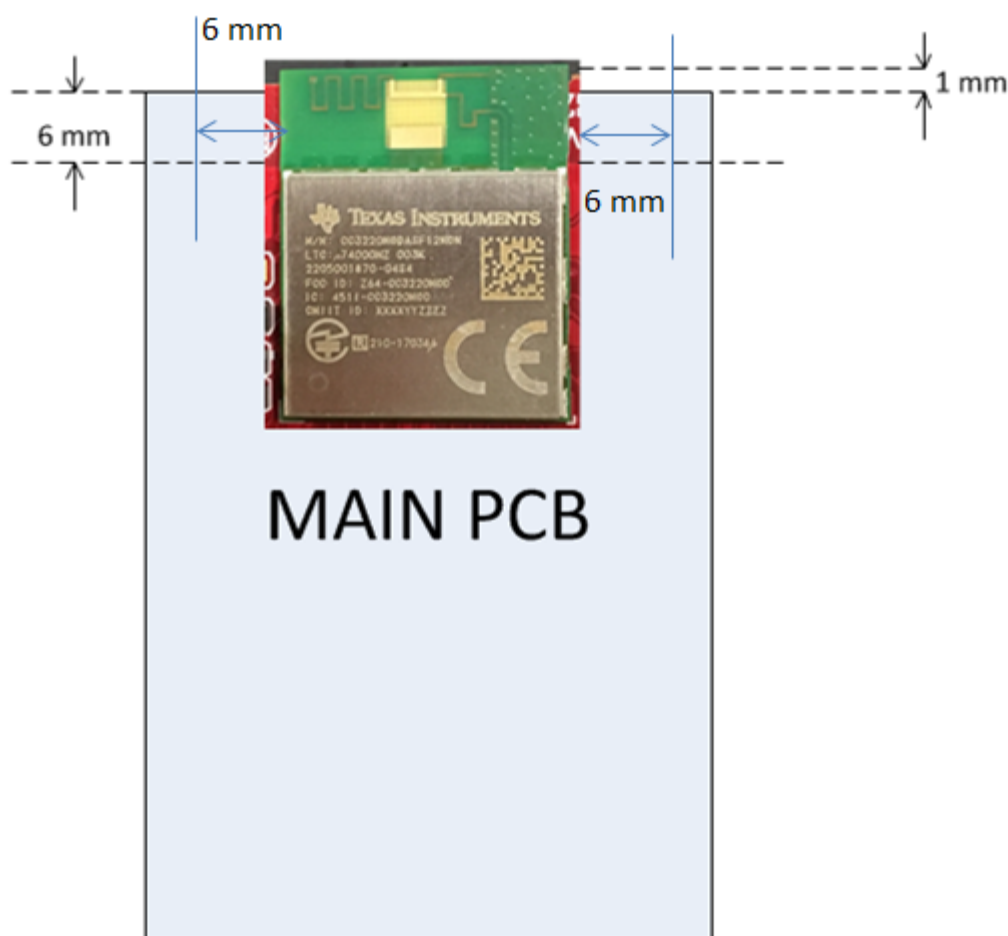

Figure 6-13: CC3220MODAx module placement rules.
- The module must have an overhang of 1mm from the PCB edge as show in Figure 6-13 below.
- The module must have a 6mm clearance on all layers (no copper) to the left and right of the module placement as show in Figure 6-13.